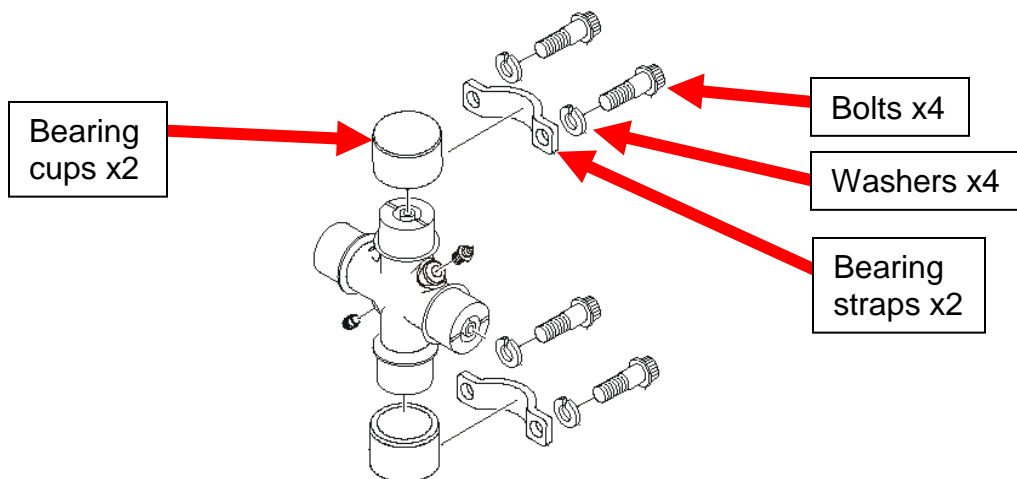

Figure 17: Yoke shaft cross assembly
- b) Fasten the yoke shaft cross bearing cups to the transmission flange with 4 bolts, 4 washers and 2 bearing straps KIT P/N: (451210). Also see figure 17. Torque bolts to 115-135 FT-LBS DRY.